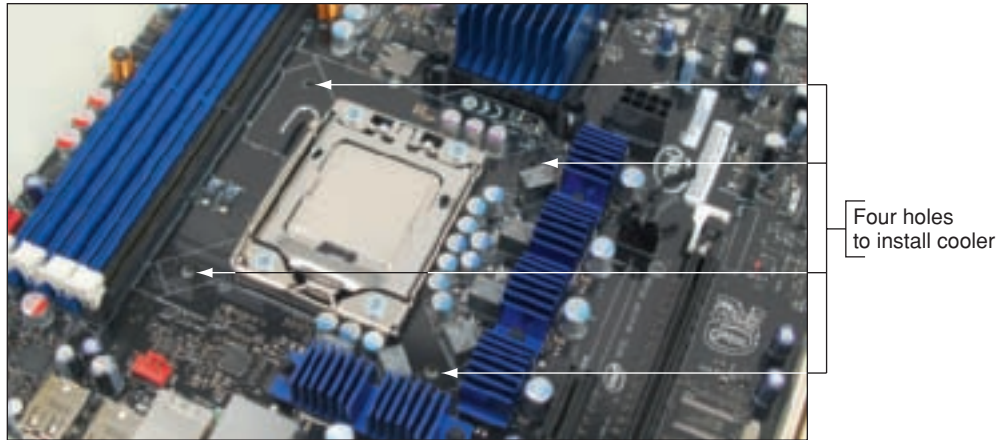

Figure 6-27 Four holes in the motherboard to connect the cooler to the board
1. The motherboard has four holes to anchor the cooler (see Figure 6-27). Examine the cooler posts that fit over these holes and the clips, screws, or wires that will hold the cooler firmly in place. Make sure you understand how this mechanism works.